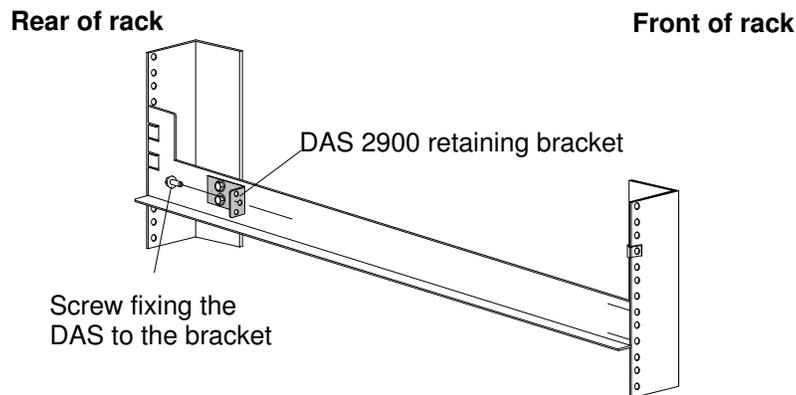

Figure 90. Position of the retaining bracket to the DAS 2900 rails
1. Fix the DAS 2900 retaining bracket to the rails using two (2) M5 self-locking screws see figure 90.
2. Insert two (2) M6 threaded nut clips on each side of the rack (left and right) at the front and at the rear of the rack in holes number 2 and 4 as shown below.
3. Position the rails inside the rack with the DAS 2900 retaining bracket towards the rear of the rack as shown in figure 90.
4. Secure the rail to the rack using two (2) M6 screws on each side at the front and at the rear of the rack.
2. At the **rear** of the rack, secure the drawer by using one self-locking M5 screw to fix the drawer to the DAS 2900 retaining bracket on each side as shown in figure 90.